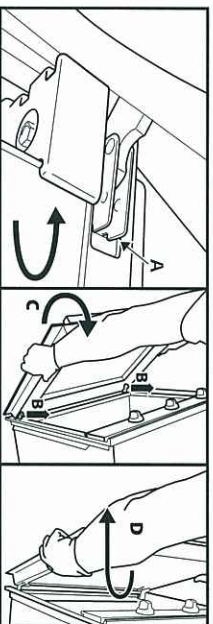

Fig. 2
3. Close the door as far as it will go (A), lift it up (B) and turn it (C) until it is released (D) (fig. 2).